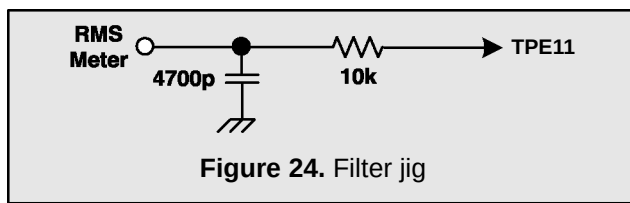

Figure 24. Filter jig
1. Connect an RMS meter with filter jig as shown in Fig. 24.